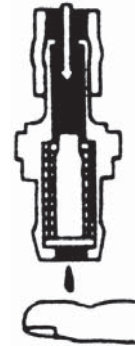

Figure 115
- Blow air in from the intake manifold side. Check that the air flow should be difficult. Replace PCV if the operation is not as specified. See (Figure 115).